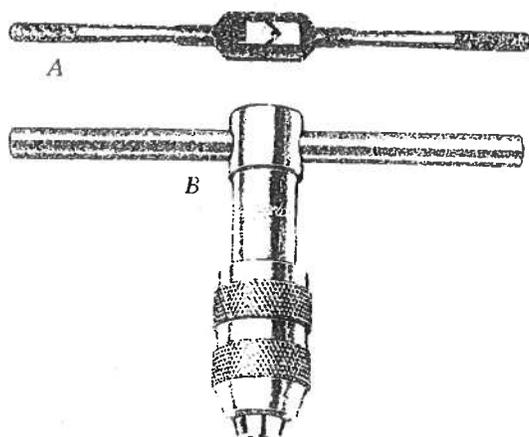

Fig. 21-9 Tap wrenches. (A) Adjustable. (B) T-handle. (Greenfield Tap & Die/Division of TRW, Inc.) (L.S. Starrett Company)
3. Install a **taper tap** or a **plug tap** of the correct size in a **tap wrench** (Fig. 21-9). (The **T-handle tap wrench** is used for holding small taps.)